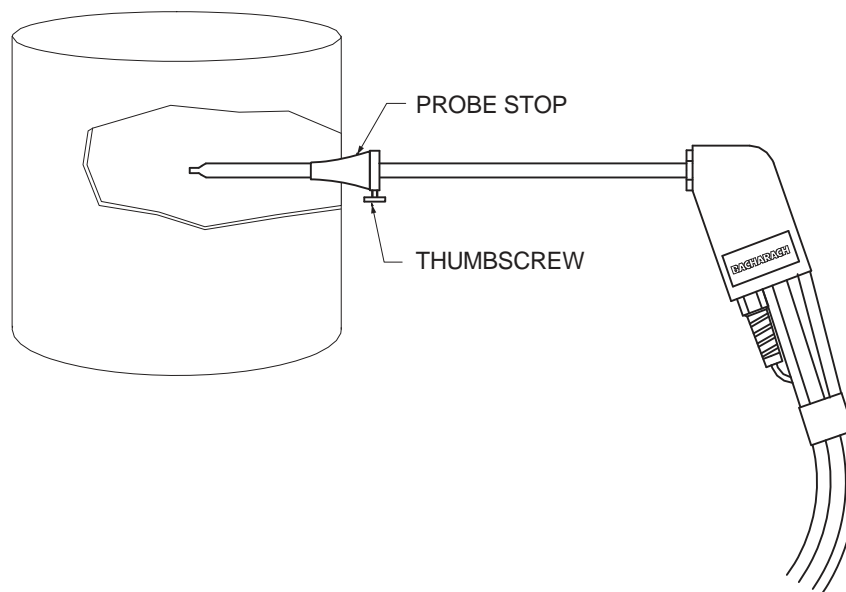

Figure 4-2. Installing the Probe
1. After making a sampling hole in the stack (Section 4.2), and turning on the analyzer (Section 4.3.1), screw the probe stop supplied with the Probe and Hose Assembly into the sampling hole (Figure 4-2).